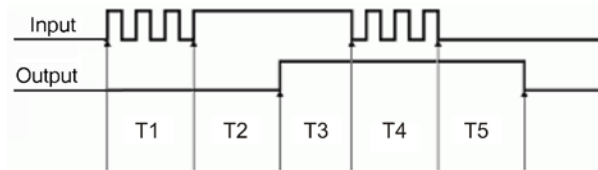

Figure 18. *Trigger after stable* mode
In the *trigger after stable* mode, the output of the debounce module does not change state until a period of stability has been achieved. This means that the input has an edge, and then must be stable for a period of time equal to the debounce time. Refer to Figure 18.
- T1—In Figure 18, the input signal goes high at the beginning of time period T1, but never stays high for a period of time equal to the debounce time setting (equal to T2 for this example.)